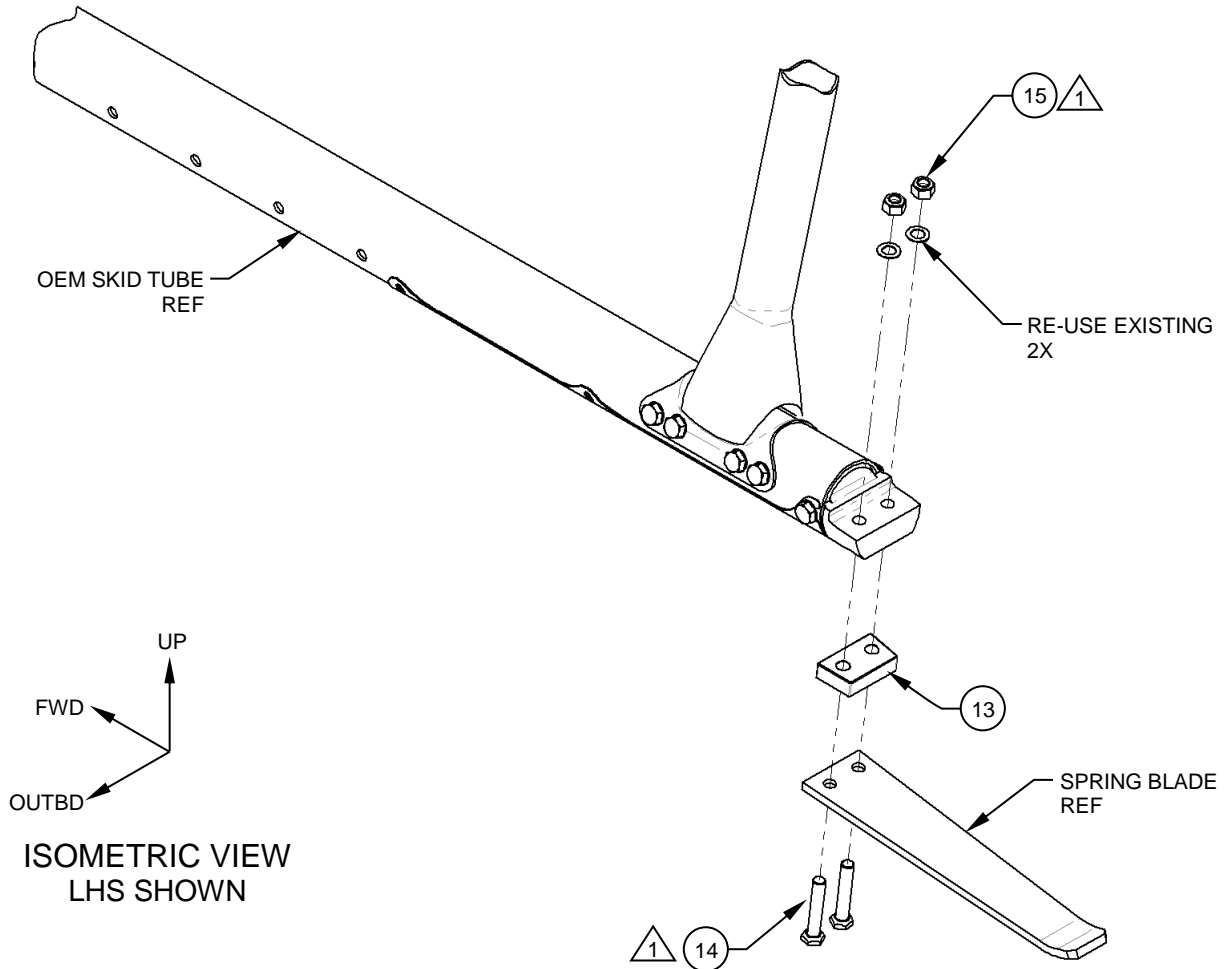

Figure 2
- Remove the spring blade, Spacer, Detail (Item 13), the Nuts (Item 15) and the Bolt, Details (Item 14). Reference Figure 2.
2. Raise the aircraft and install the Spacer, Detail (Item 13) between the spring blade and its associated fitting using the provided Bolt, Details (Item 14) and the associated nuts (Item 15). Re-use the existing washers. Reference Figure 2.